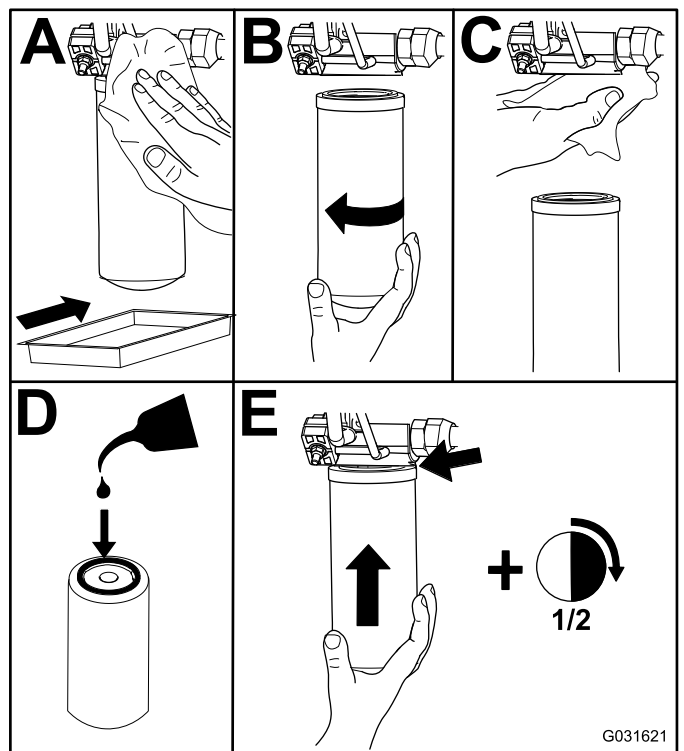

Figure 103
2. Replace the hydraulic filters (Figure 103).